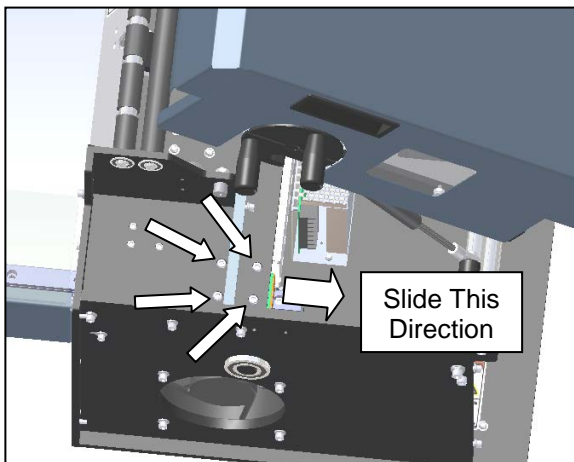

Figure 3-304. Right Linear Bearing
- Locate the right linear bearing mounting screws and remove (Figure 3-304). Take the spacer from the top of the linear bearing, and slide out of the machine. The linear bearing can now be slid off the guide rail and out of the machine to the rear.